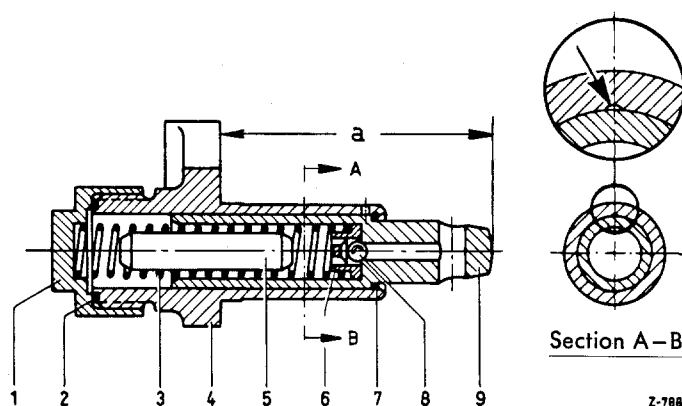

Figure 05-22/1
It is recommended to replace the complete chain tightener assembly if complained of. If individual parts are supplied as replacement, observe that the pressure pin (9) and the housing (4) cannot be exchanged individually, since both parts are exactly fitted with respect to one another (see Figure 05-22/1).
1. Unscrew the locking nut (1), observing that the pressure spring (3) presses on the locking nut (see Figure 05-22/1).
2. Remove the pressure spring (3), the pin (5), the ball cage (6), the ball (8) and the pressure pin (9) from the housing (4) (see Figure 05-22/1).
4. Insert the pressure pin (9) into the housing (4). Place the ball (8) including ball cage (6), the pin (5) and the pressure spring (3) into the pressure pin (9). Screw on the locking nut (1) with the seal ring (2) and tighten (see Figure 05-22/1).